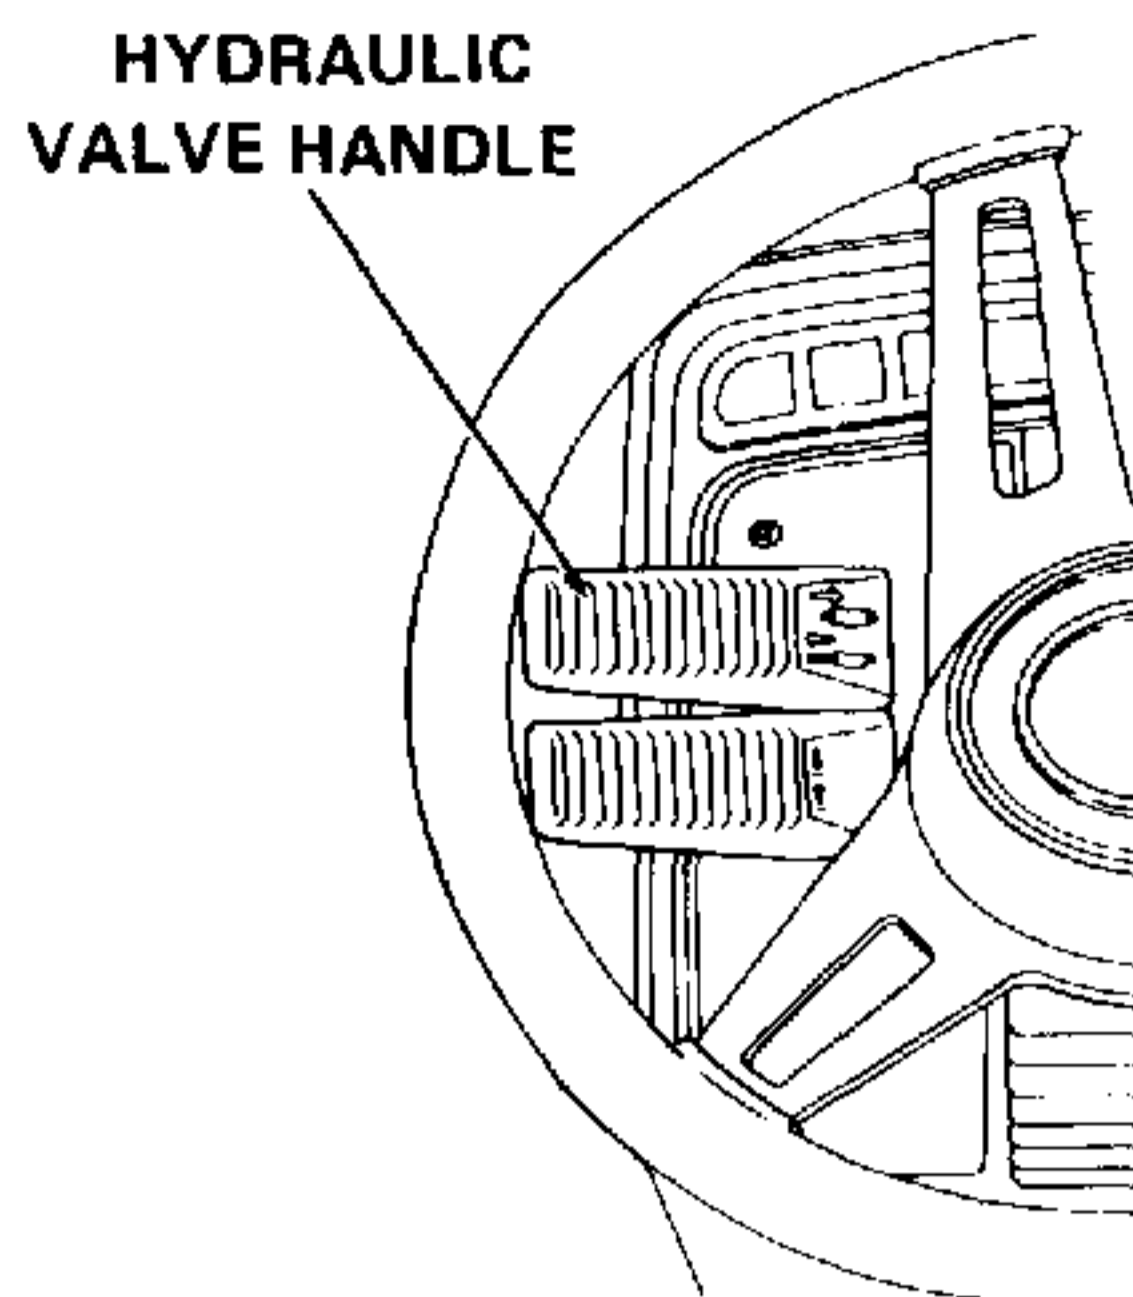

Figure 7-78. Properly Installed Hydraulic Valve Handle (Models 1782 and 2182 Only).
12. For tractor Models 1782 and 2182 only, install hydraulic valve handle per paragraph 7-5.4, steps 1.a. through 1.d. Refer to Figure 7-78 for view of properly installed valve handle.